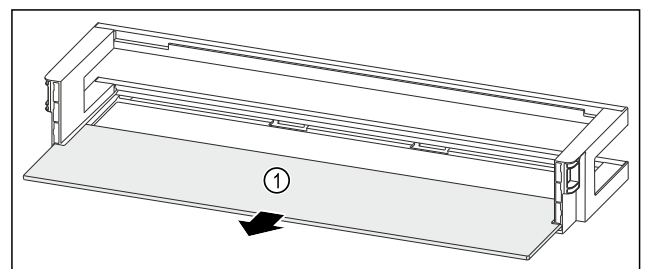

Fig. 259 Door rack with shelf
- ▶ Remove the shelf Fig. 259 (1).